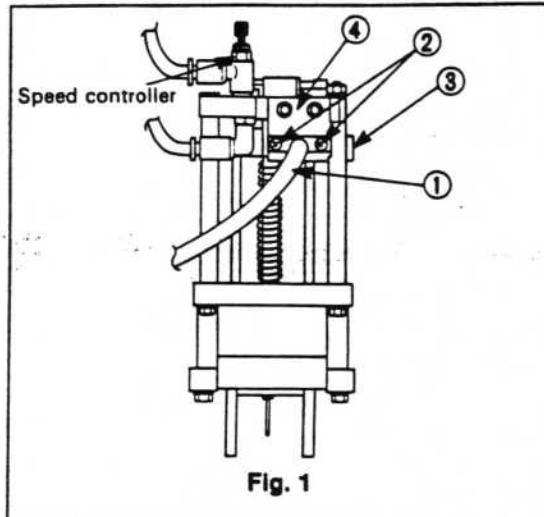

Fig. 1
- (1) Disconnect the sensor lead ① from the sensor ③ (see Fig. 1).
- (2) Remove the sensor set screws (②, x 2) (see Fig. 1).
- (3) Remove the sensor from the bracket ④ (see Fig. 1).